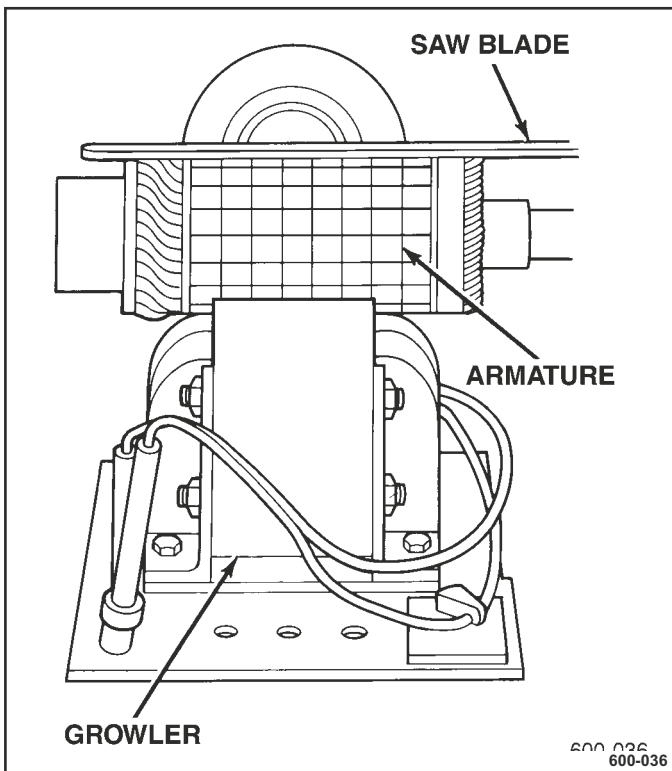

Figure 4-17 Testing Armature for Short Circuits
Figures 4-17 and 4-18
- Check the armature for short circuits by placing on growler, and holding hack saw blade over armature core while armature is rotated (figure 4-17). If saw blade vibrates,